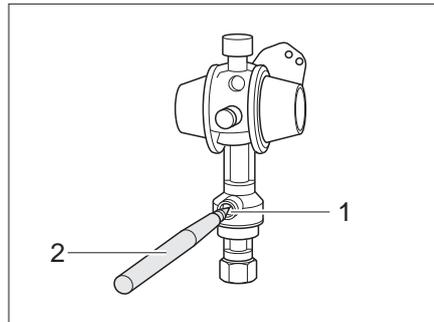

Fig. 92 Crash sensor
- Press in the release button (Fig. 92,1) with a pin (Fig. 92,2) for several seconds.